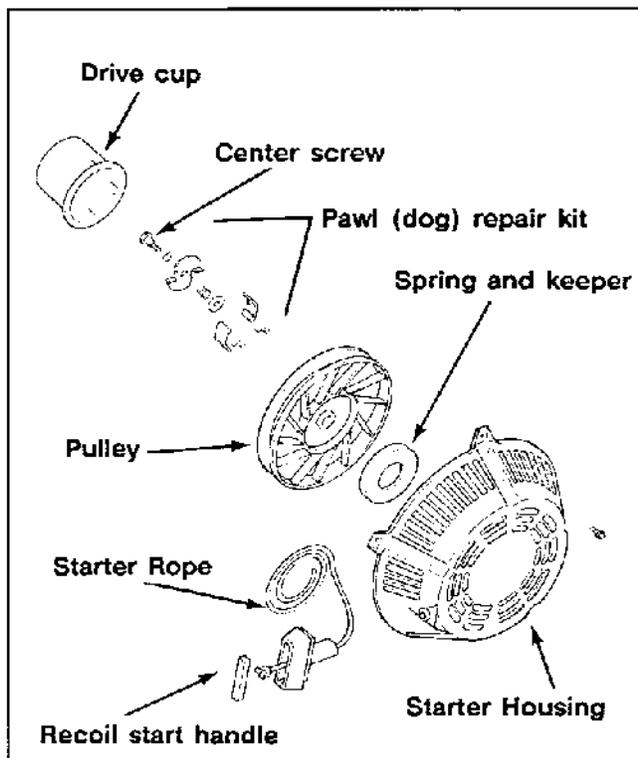

Figure 7-1. Retractable Starter – Exploded View.
2. Replace all worn or damaged components. Use only genuine Kohler replacement parts as specified in the Parts Manual. All components shown in Figure 7-1. are available as service parts. Do not use nonstandard parts.